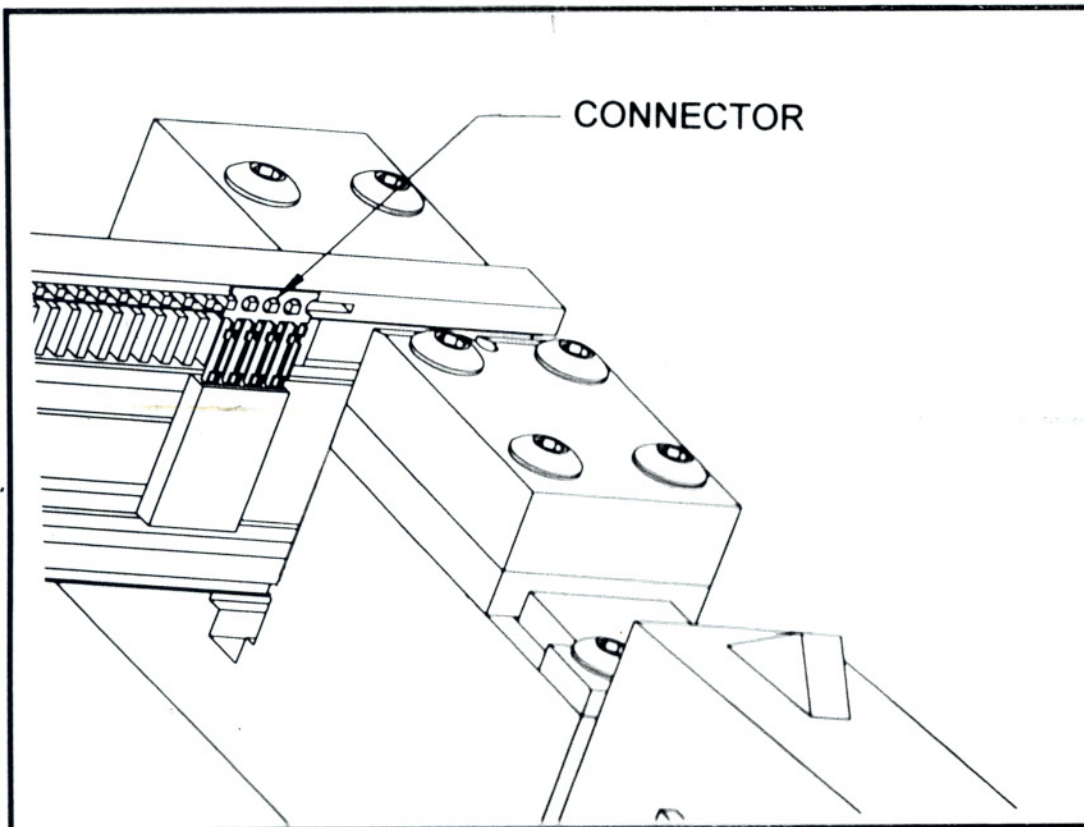

Fig. 5
3. Load a connector onto the connector slide engaging the holes in the carrier strip onto the locating pins on the slide (See Fig. 5). Make sure the rightmost terminal on the connector is over the first termination position.